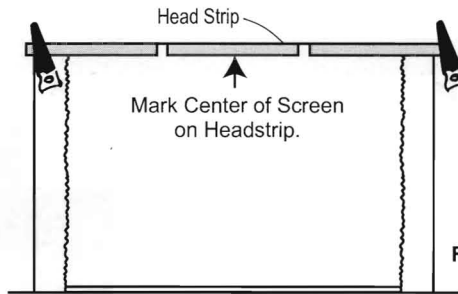

Figure 2B.
2. Measure across top door facing as shown. Mark center of opening. Refer to Figure 2A & 2B. Now trim head strip on screen to desired length by cutting equal amounts from each end. Note: Allow 1" extra on each end to overlap side molding. See Figure 2B.